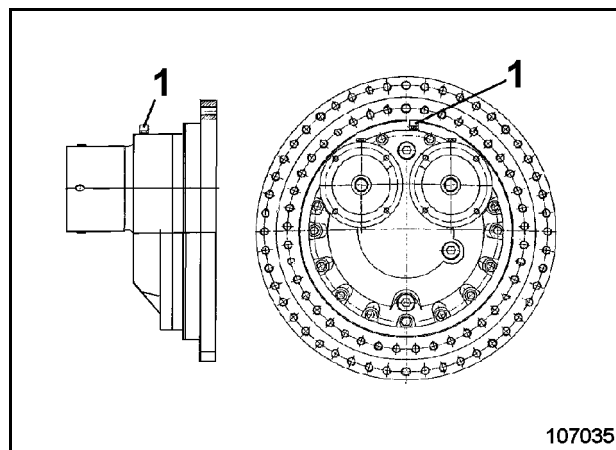

Fig. 3-134:
- Unscrew breather filter (1, Fig. 3-134:) and clean in white spirit or parafin. Replace according to maintenance plan.